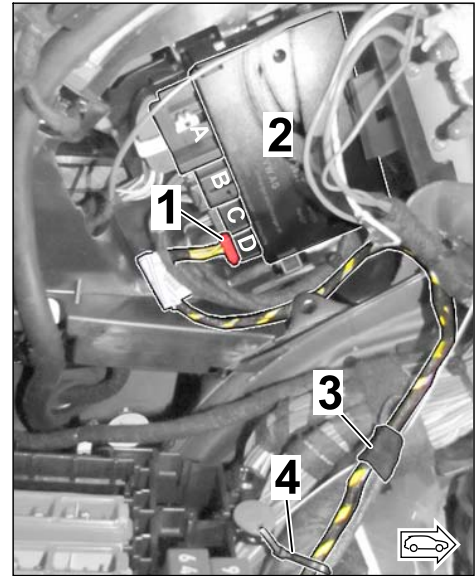

Figure 20
- 3.4.1 Insert connector D (10-pin) in slot D on the trailer hitch control unit (⇒ *Figure 20*).